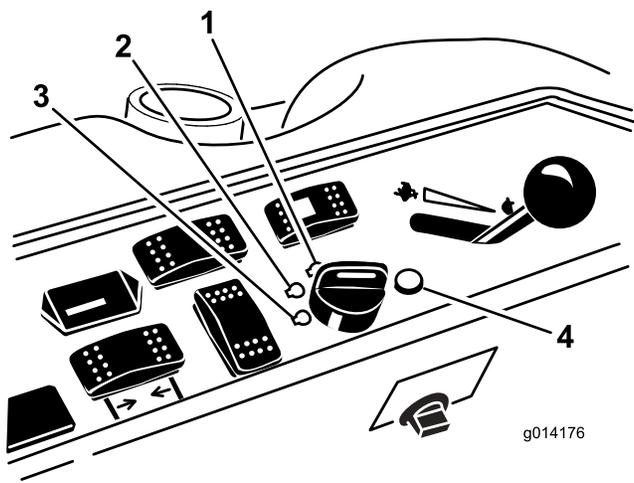

Figure 16
6. Turn the ignition key clockwise to the RUN position (Figure 16).
- Turn the ignition key to the OFF position (Figure 16). Wait for all moving parts to stop before leaving the operating position.